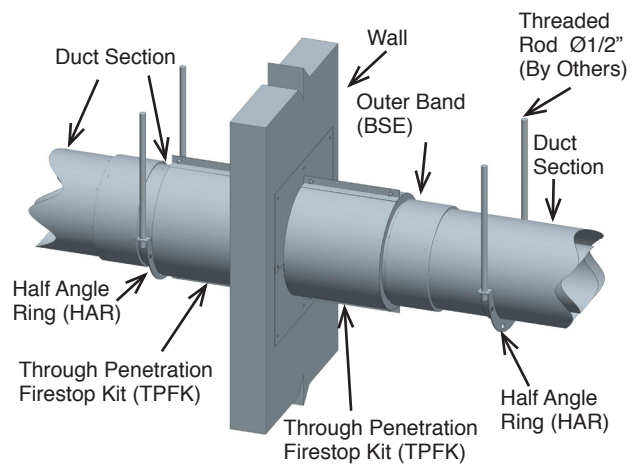

Figure 108: Supports for duct through fire-rated wall (DIS3Z only)
Ducts that penetrate a fire-resistance wall (upto 2hr fire-rated) have to be supported on both side of the wall. It can either be supported by bracing a HAR, a AP or APL. See Figure 108.
- For Wall Penetration, use two TPFK's. See **Figure 111** and **Figure 108**.